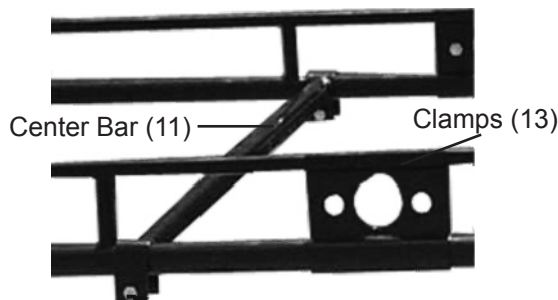

Figure 7
11. Place Center Bar (11) between Front or Rear Side Frames. **Please note:** Center Bar is adjustable and can be fastened anywhere along Side Frames. Fasten Center Bar to Side Frames using Bolts (24), Nuts (25) and Flat Washers (26). See **Figure 7**, below.